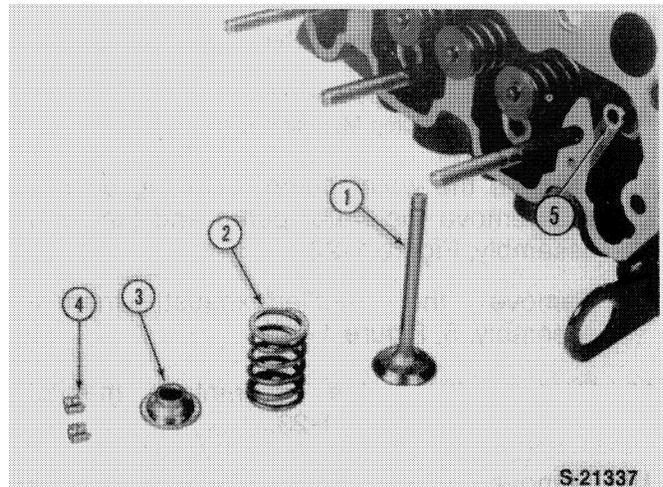

FIGURE 1-27
2. Use a suitable valve spring compressor and remove the valve spring retainer locks, 4, retainers, 3, and springs, 2, Figure 1-27.